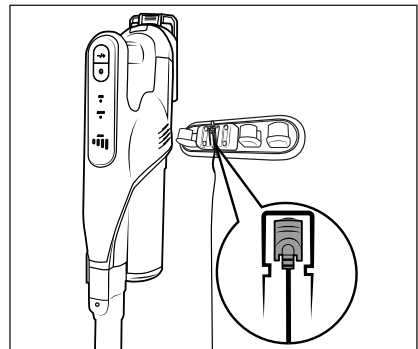

Fig. 6
- ◆ Place the vacuum cleaner in the wall bracket **17** from above so that the barrel plug **10** slips into the charging socket **2** on the bottom of the appliance. The battery indicator **25** starts flashing and the charging process starts (see Fig. 6 and 7).